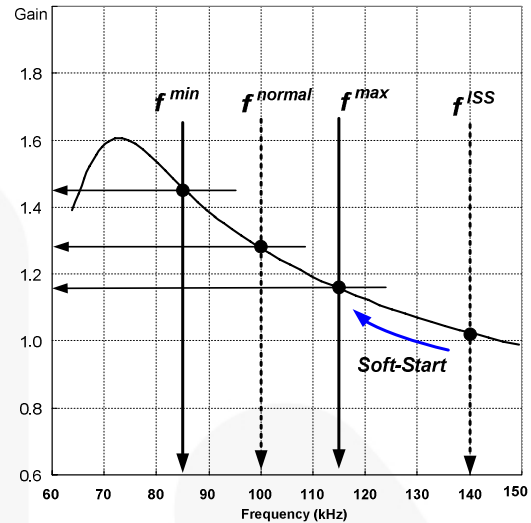
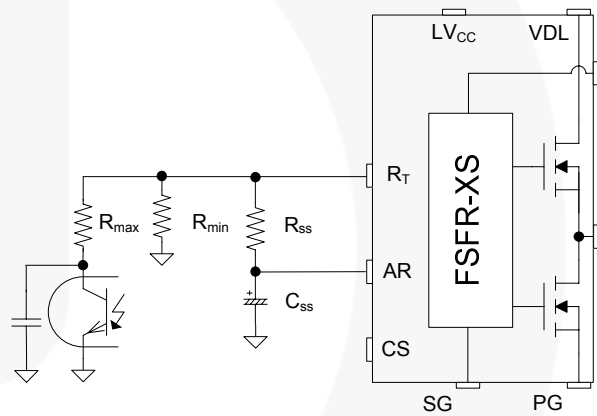
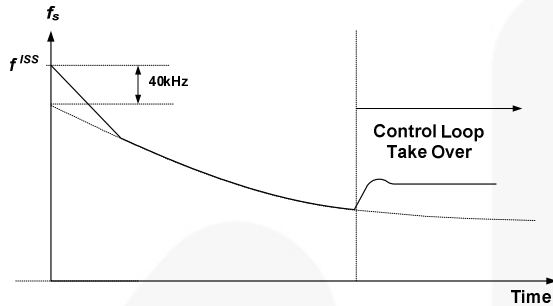

Figure 17. Resonant Converter Typical Gain Curve
Figure 18. Frequency Control Circuit
Figure 19. Frequency Sweeping of Soft-Start
3. Frequency Setting: Figure 17 shows the typical voltage gain curve of a resonant converter, where the gain is inversely proportional to the switching frequency in the ZVS region. The output voltage can be regulated by modulating the switching frequency. Figure 18 shows the typical circuit configuration for the R_T pin, where the opto-coupler transistor is connected to the R_T pin to modulate the switching frequency.
To prevent excessive inrush current and overshoot of output voltage during startup, increase the voltage gain of the resonant converter progressively. Since the voltage gain of the resonant converter is inversely proportional to the switching frequency, the soft-start is implemented by sweeping down the switching frequency from an initial high frequency (f^{ISS}) until the output voltage is established. The soft-start circuit is made by connecting R-C series network on the R_T pin, as shown in Figure 18. FSFR-XS series also has a 3ms internal soft-start to reduce the current overshoot during the initial cycles, which adds 40kHz to the initial frequency of the external soft-start circuit, as shown in Figure 19. The initial frequency of the soft-start is given as: